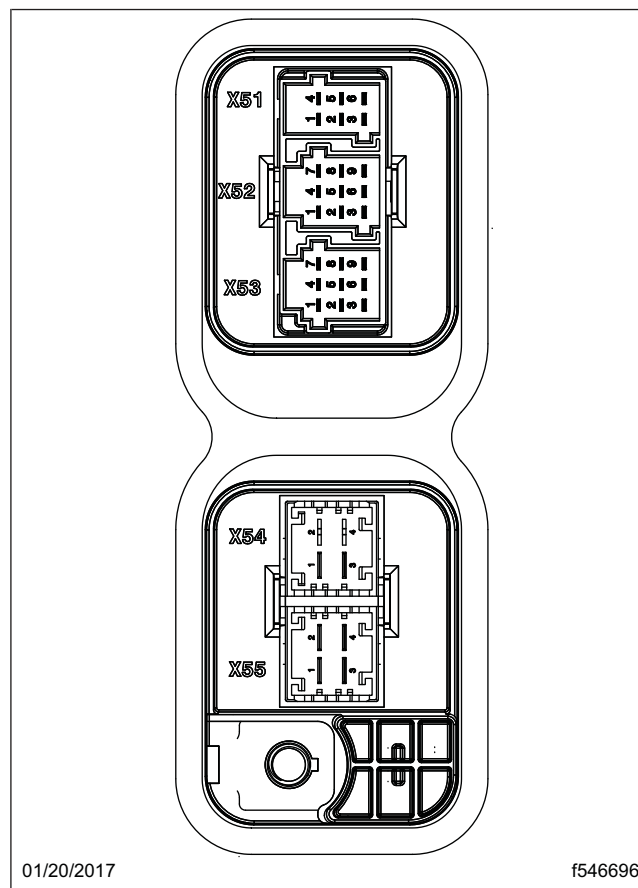

Fig. 8, SAM Chassis Connector Locations
9. Snap the terminal lock and plug in the connector into cavity X53 on the SAM Chassis. See Fig. 8.